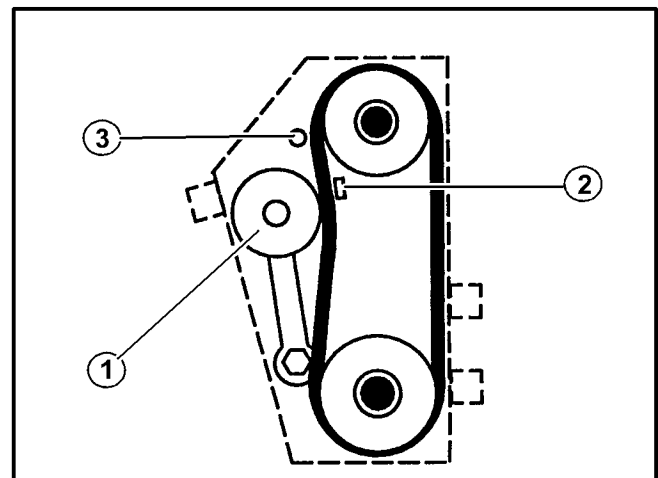

FIGURE 11
2. Place the new belts between the idler pulley and the snubber on the idler arm and then over the engine and reel pulleys. See Figure 11.
3. Install the belt guards. Make sure the belt stop rod is outside of the belt. See Figure 11.